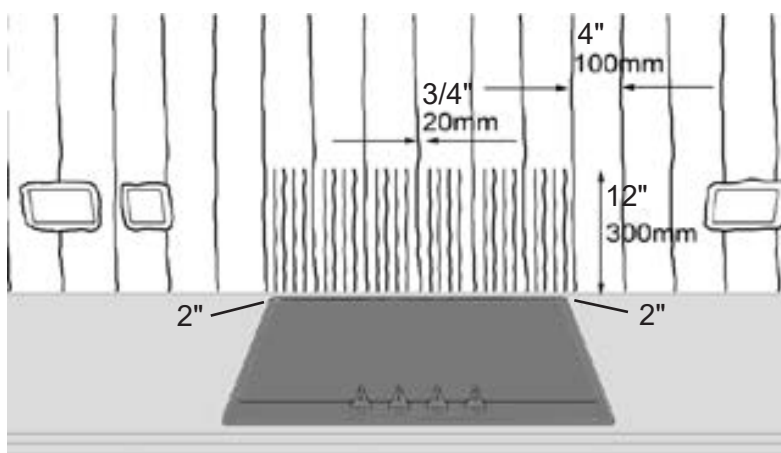

Figure 12A
- A minimum space of 2" (50mm) should be allowed between the back of the cooktop and the face of the Wilsonart® Backsplash. (FIG. 12A)